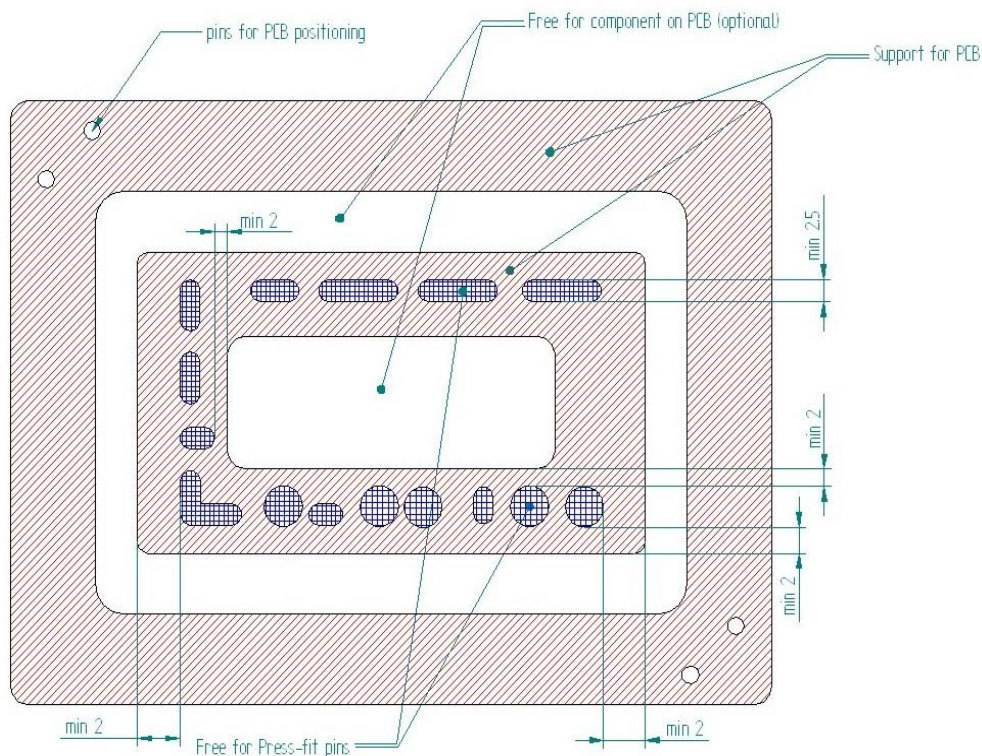

Figure 19: The recommended hole and cutout dimensions for supporting tool
- Figure 19 shows the recommended hole and cutout dimensions for the Press-fit pins. The recommended diameter of the holes / cutouts for the pins in the supporting tool is between 1.7 mm and 4 mm (depending on the positioning accuracy). The minimal supporting place around the pin is 2 mm. If the pins are close to each other then it is possible to make a lengthwise cutout for more pins as well (the min. distance of PCB components from the PCB pinhole should also be considered here). It is necessary to position the PCB and the module as well. The depth of the cutouts for the pins is 6 mm.